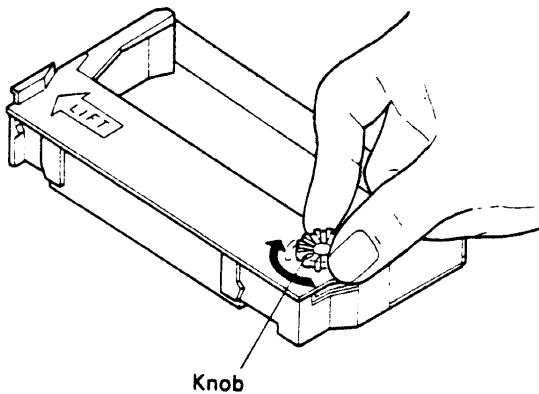

Fig. 2-4. Taking Up Slack in the Ribbon
- (1) Using your fingers, turn the knob of the ribbon cassette in the  direction to take up any slack in the ribbon as shown in Fig. 2-4.